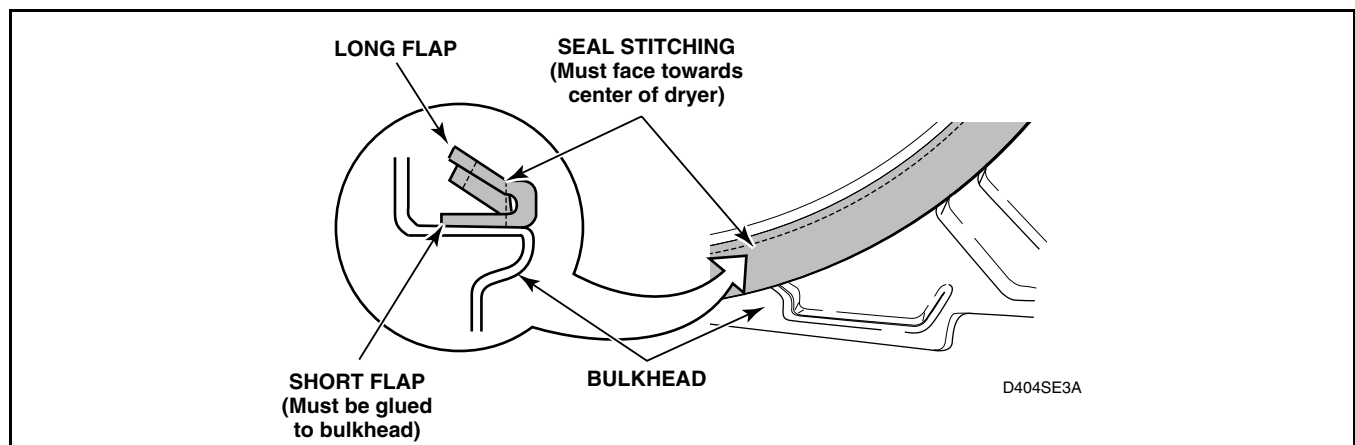

Figure 30
- Front Cylinder Seal (*Figure 30*)